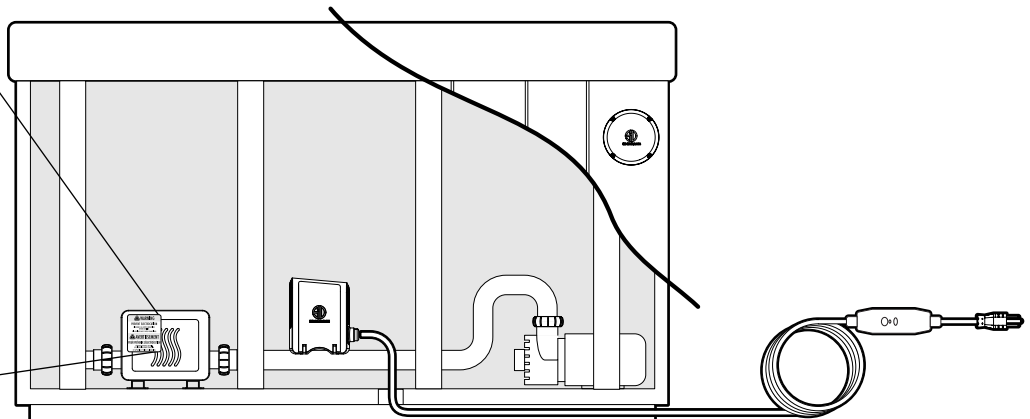

FIG. 11.1. For the options listed, you may need to access the terminal connections to facilitate routing. Below are the key components you'll need to work with.
Option 1. Route the power cable through the bottom of the hot tub (Reference FIG 11.1)
Option 2. Route the power cable through the hot tub facade. (Reference FIG. 11.1, FIG. 11.2, FIG. 11.3)
a. Remove the terminal cover, cable gland nut, disconnect terminal screws and remove power cable. see FIG. 11.1 for reference.
e. To re-install the wires refer to FIG. 11.1. Be sure to re-install the terminal cover and attach it to the heater with the screws provided. Once the terminal cover is in place, tighten the cable gland nut until it is snug (do not over tighten). Finally, mount the hot tub panel back onto the hot tub ensuring not to pinch or disconnect any of the cords/probes.